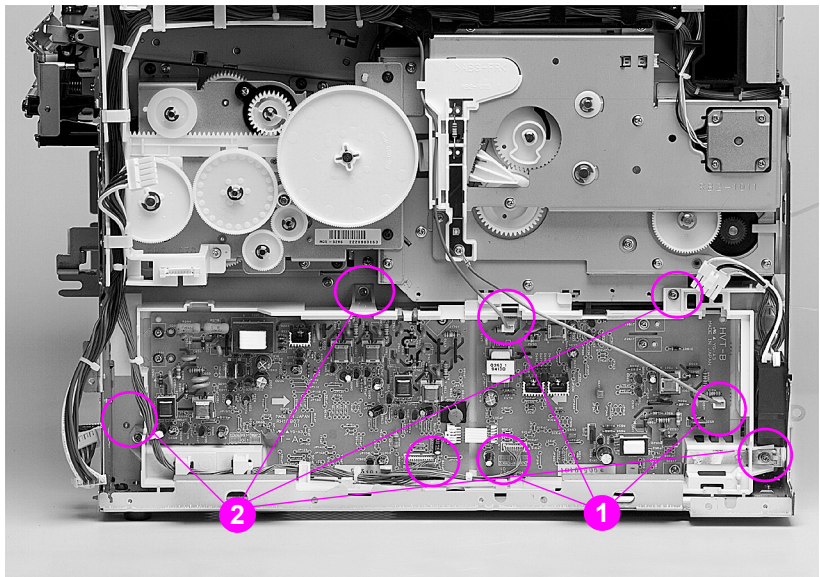
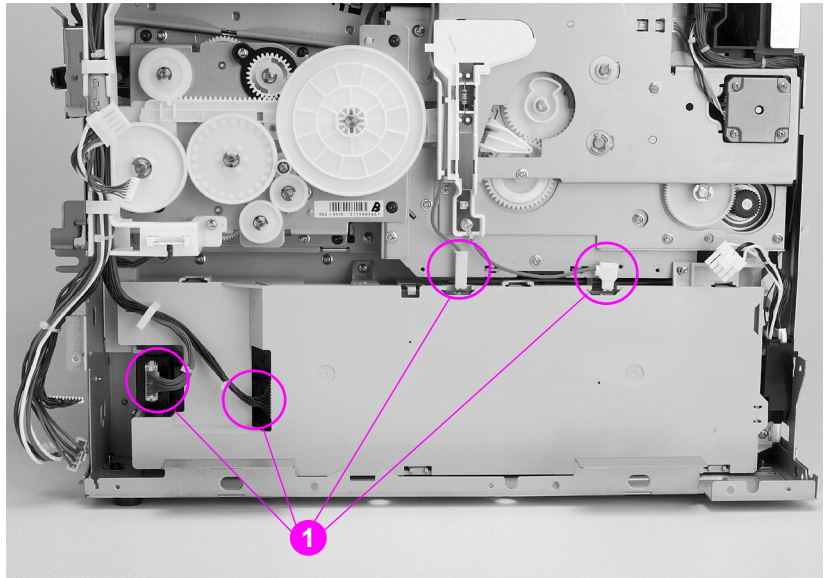

Figure 6-32 High-voltage power supply removal and replacement (newer version HP Color LaserJet 4500 and HP Color LaserJet 4550 printers)
Figure 6-33 High-voltage power supply removal and replacement (older version HP Color LaserJet 4500 printers)
- 5 Disconnect the four cables from their connectors (callout 1, Figure 6-32 or callout 1, Figure 6-33, depending on the version of printer being serviced).
- 7 Remove the four brass screws shown in callout 2, Figure 6-32 from the HVPS.